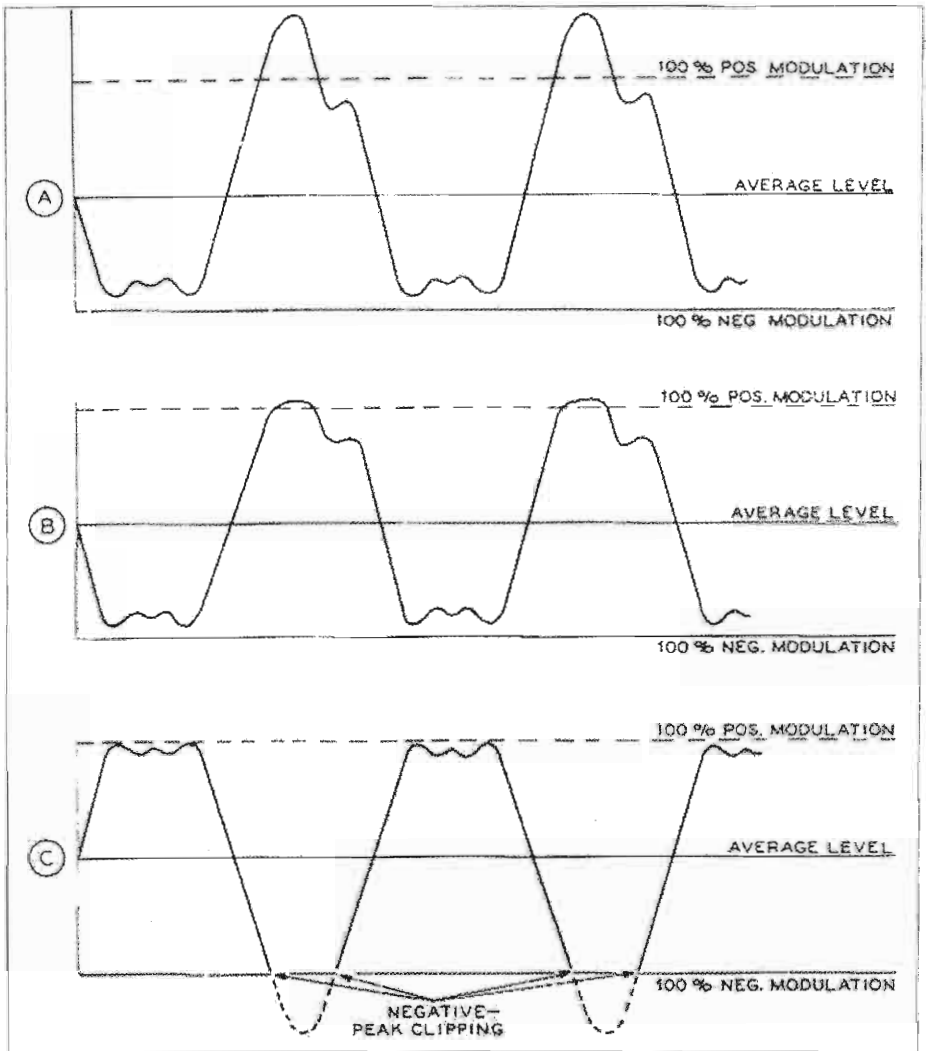

Figure 5: Speech waveforms, from Bill Orr's Radio Handbook.
What is important and worthy of a few words is the purpose of phasing the microphone for each transmitter. The following text is associated with the three waveforms (A), (B), and (C) in Figure 5. Rather than trying to rewrite my reference material, I've elected to use it word-for-word. This explanation is clear and simple and was extracted from the Radio Handbook, by Bill Orr. In this explanation, the word "polarity" has the same meaning as my use of the word